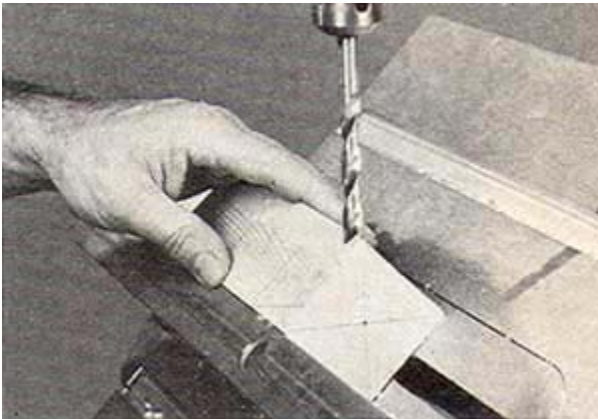

Fig. 2. Cutting out the fuselage profile on the bandsaw.
3: Cut out the contours. Transfer the side and top profiles to the fuselage (A), and draw a 1" diameter circle on the nose of the fuselage. First, form the dado for the wing...then cut the tail slot. Cut out the remainder of the profiles on the Bandsaw (See Fig. 2).